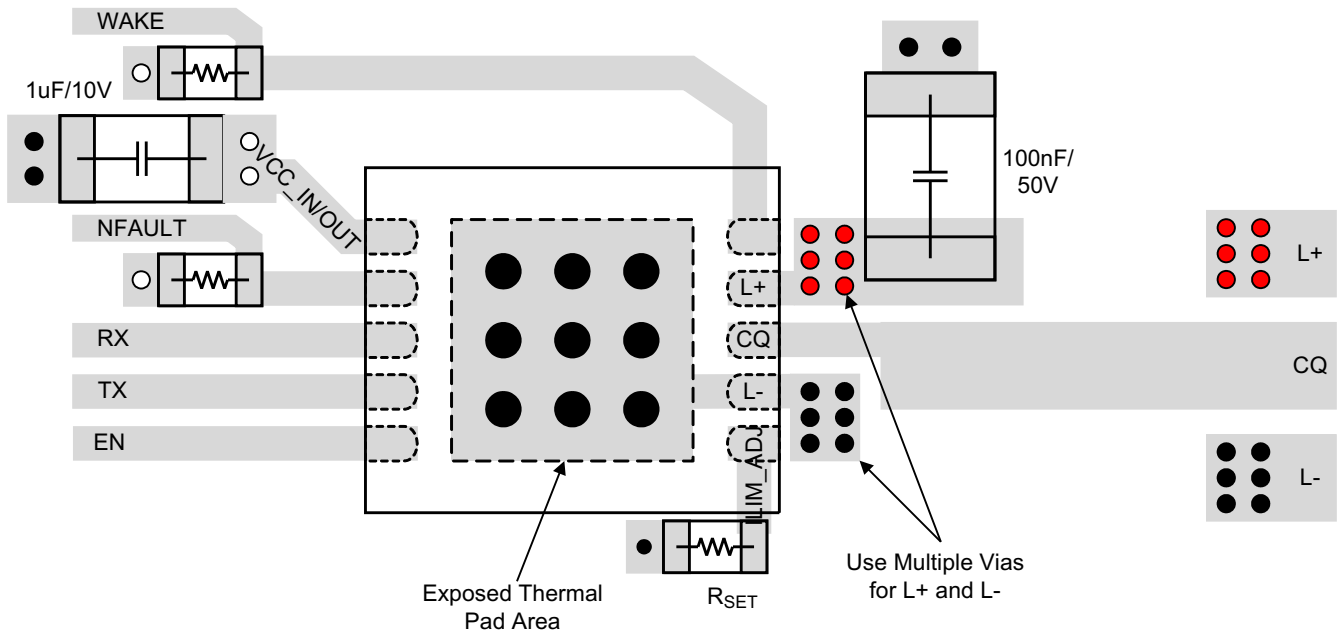

Figure 11-1. Layout Example
- The optimum placement of the capacitor is closest to the transceiver's L+ and L- terminals to reduce supply drops during large supply current loads. See Figure 11-1 for a PCB layout example.